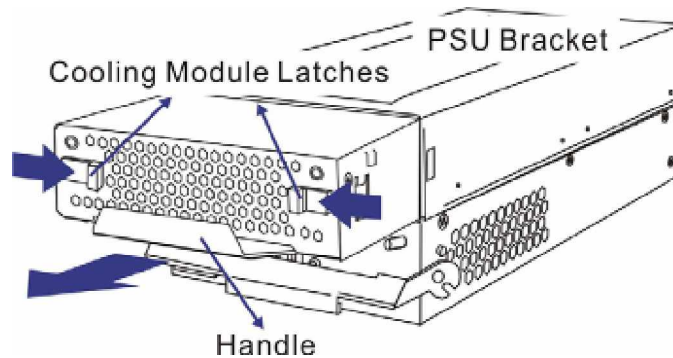

Figure 5-18: Removing the Cooling Module
Step 2. To remove the cooling module, pull both side latches toward the center of the cooling module. Withdraw the cooling module from the PSU bracket by gently pulling on the silver handle at the bottom of the module. (See **Figure 5-18**)